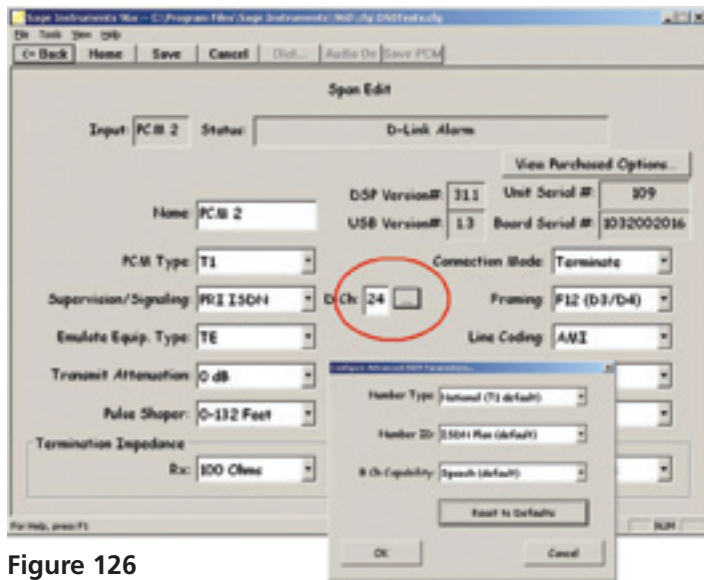

Figure 126
1. Also in the configure span window for the ISDN D Channel test advanced parameters can be set for the ISDN D Channel. Next to the supervision/Signaling menu in the middle of the window is a text box labeled “D Ch:” displaying channel 24 or 16 as the default. Use this box to change to the desired channel (see figure 126).